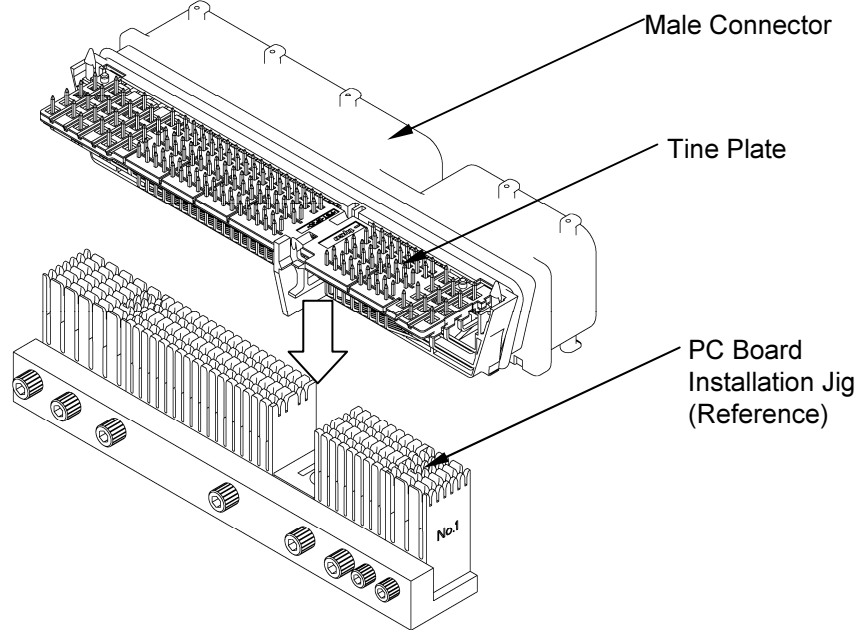

Fig. 9
(1) Please make Tine Plate upward like fig.9, and install the Male Connector in substrate made of installation Jig.